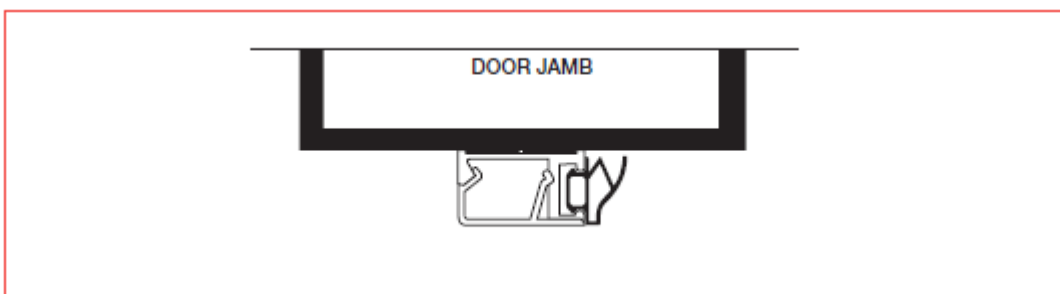

Figure 3
7. Replace gasket seal into aluminium carrier and trim ends to size with a knife or scissors as *Figure 3*.